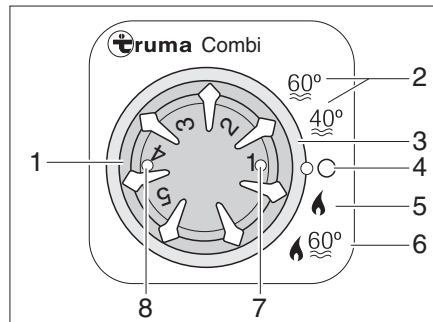

Fig. 112 Operating unit for heater/boiler
- Set the operating mode using the rotary switch (Fig. 112,3).
The heater selects the necessary burner setting according to the set heating level. In the "Heater and boiler" (Fig. 112,6) operating mode, the water in the boiler is also heated. The heater can be operated with an empty boiler in the "Heater without boiler" (Fig. 112,5) operating mode.
- Turn the temperature control knob (Fig. 112,1) on the operating unit to the desired heating level.
- Set the rotary switch (Fig. 112,3) to winter operation "Heater without boiler" (Fig. 112,5) or to winter mode "Heater and boiler" (Fig. 112,6).
The green indicator lamp (Fig. 112,7) lights up.
- Set the rotary switch (Fig. 112,3) to "O" (Fig. 112,4).
The combination gas operation and 240 V electrical operation reduces the heating-up time (only possible when the heater on the operating unit (Fig. 112) is set to winter operation).